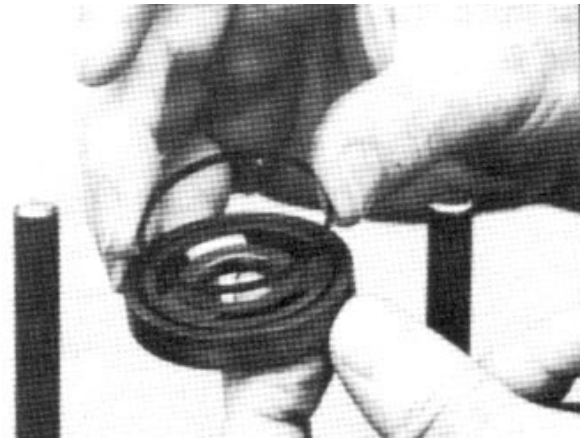
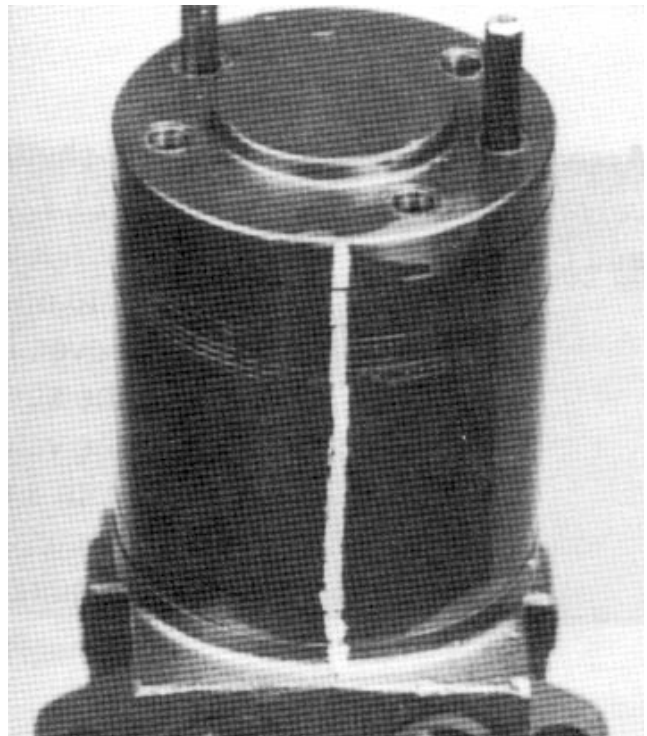

Figure 45
Figure 46
**Note:** If the manifold (22) side of the rotor (19) was etched during wheel motor disassembly, this side should be up. If the rotor is not etched and does not have a counterbore, use the drive link spline contact pattern apparent on the rotor splines to determine the rotor side that must be against the wear plate.
C. Place rotor (19) with counterbore down, if applicable, into stator (21), and then onto wearplate (18) so rotor splines mesh with drive link (13) splines.
D. Assemble six vanes (20), or as many vanes that will readily assemble into the stator vane pockets.
E. Grasp the output end of coupling shaft (11) with locking pliers or other appropriate turning device. Rotate coupling shaft, drive link (13), and rotor (19) to seat the rotor and the assembled vanes (20) into the stator (21). This rotation should create the necessary clearance to assemble the seventh or remaining vanes. Use minimum force when assembling the remaining vane (s).
F. Remove the two assembled bolts (14) if used to retain stator and wear plate.
**Note:** The manifold (22) is made up of several plates bonded together permanently to form an integral component. The manifold surface that must contact the rotor set has it's series of irregular shaped cavities on the largest circumference or circle around the inside diameter. The polished impression left on the manifold by the rotor set is another indication of which surface must contact the rotor set.
15. Apply clean petroleum jelly to a new seal ring (5) and assemble it in the seal ring groove in the rotor set contact side of manifold (22).
16. Assemble the manifold (22) over the alignment studs and drive link (13) and onto the rotor set. Be sure the correct manifold surface is against the rotor set.
17. Apply clean petroleum jelly to a new seal ring (5) and insert it in the seal ring groove exposed on the manifold (22).
18. Assemble the commutator ring (6) over alignment studs onto the manifold (22) (Fig. 45).
19. Assemble a new commutator seal (15) flat side up, into commutator (16) and assemble commutator over the end of drive link (13) onto manifold (22) with seal ring side up.
20. Assemble new seal ring (5) into end cover (24) and assemble end cover over the alignment studs and onto the commutator set (Fig. 46).
21. Assemble seven cap screws (14) and screw them in finger tight. Remove and replace the two alignment studs with bolts after the other bolts are in place. Alternately and progressively tighten the bolts to pull the end cover and other components into place with a final torque of 45 to 55 ft-lb (6.2 to 7.6 kg-m).